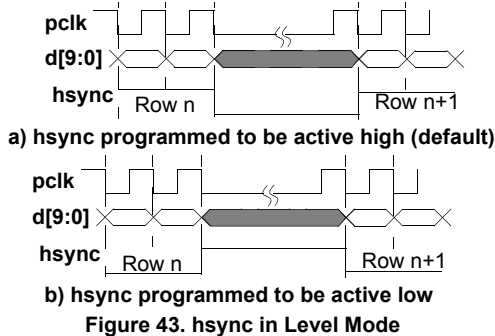

Figure 43. *hsync* in Level Mode
- **Level mode** should be used when the pixel clock, *pclk*, is programmed to operate in *free running mode*. In level mode the *hsync* output pin will go to the specified level (high or low) at the start of each row and remain at that level until the last pixel of that row is read out on *d[9:0]* as shown in Figure 43. The *hsync* level is always synchronized to the active edge of *pclk*. The *hsync* pin is put into level mode by setting the *HsyncMode* bit of the *DVBUSCONFIG1* register to a logic 0. The active level of the *hsync* pulse is programmed using the *HsyncPol* bit of the *DVBUSCONFIG1* register.